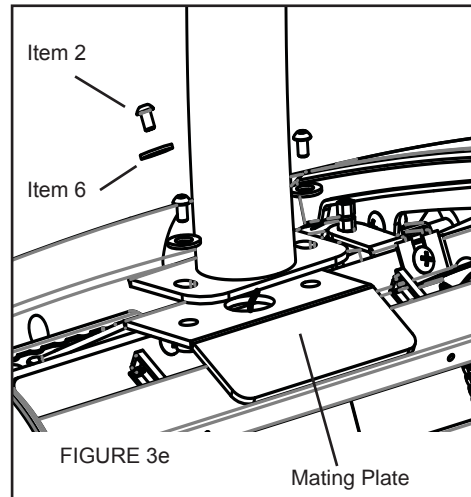

FIGURE 3e
3-5 Lift the Mast into location and secure to machine frame with bolts (item 2) and washers (item 6). Keep Mast in center with mating plate on machine (Figure 3e). Do not fully tighten the Mast bolts until completing step 3-6.